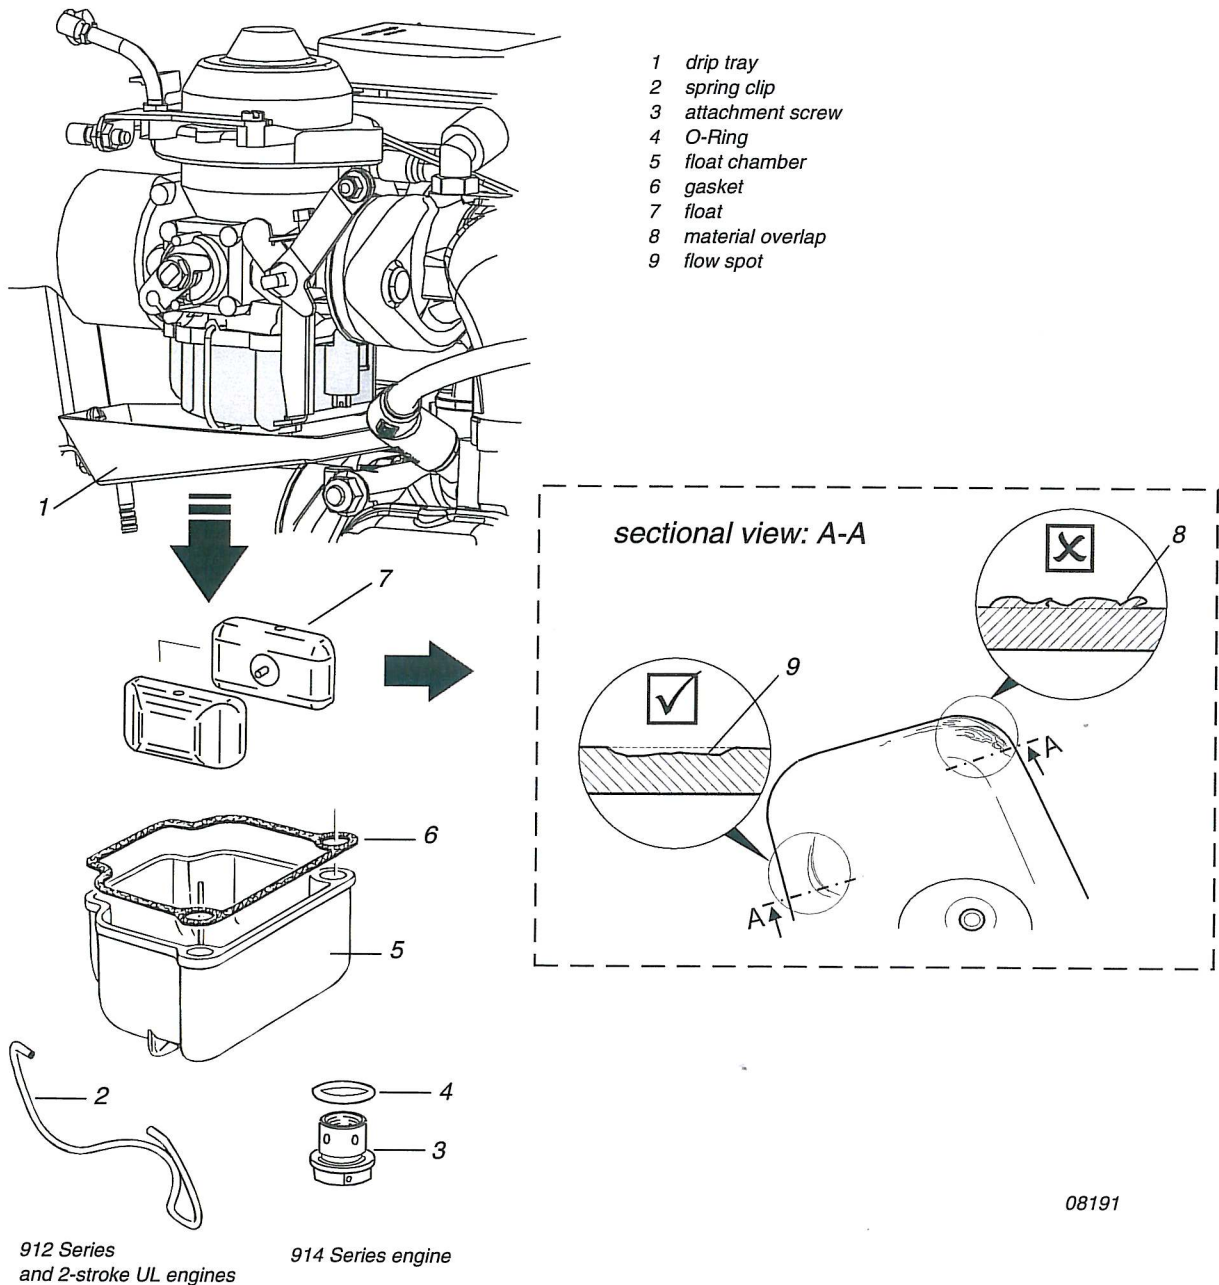

Fig. 1
(see Figure 1)
1. Remove drip tray (1) - if equipped.
3. Open spring clip (2) or for ROTAX 914 remove the attachment screw (3) including O-Ring (4).
4. Remove float chamber (5) including gasket (6) and both floats (7).
5. Check both floats carefully for loose particles. By its functional characteristics a float consists of a lightweight and porous plastics, which is gained by a spraying method. Damages on the surface caused by the porosity e.g. small disruptions up to max. 3 mm (0.12 in) length and/or flow spots (see figure 1 pos. 9) caused by the production process are permitted. These optical characteristics e.g. open pore, do not cause the floats to sink or to absorb liquid.
Material overlaps and imperfections (see Figure 1 pos. 8), which do not have sufficient connection to the float, are not permitted and the floats need to be replaced. Flow spots caused in the production process (see Figure 1 pos. 9) are permitted.
7. If no contamination can be found, replace the gasket (6) on the float chamber. For ROTAX 914 replace also O-Ring (4).
8. Install float chamber (5) including gasket (6) and both floats (7).
9. Close spring clip (2) or for ROTAX 914 install the attachment screw (3) including O-Ring (4). Tightening torque of the attachment screw is 5.5 Nm (48.7 in.lb).
10. Install drip tray (1) - if equipped.